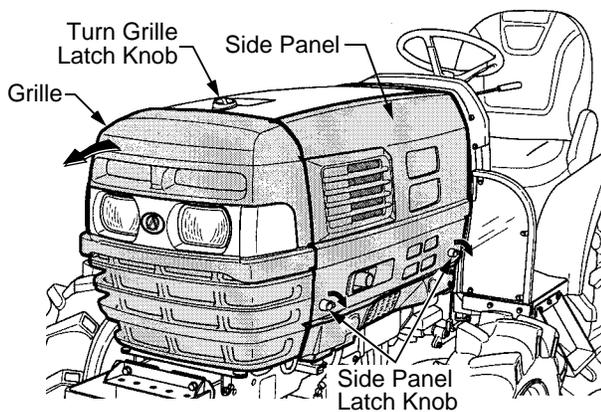

Figure 51
To open the front grille, turn the latch knob at the front of the hood and pivot the top of the grille forward. See Figure 51.
- Locate the two latch knobs at the bottom corners of the side panel and turn the handle of the knobs downward. Refer to Figure 51.